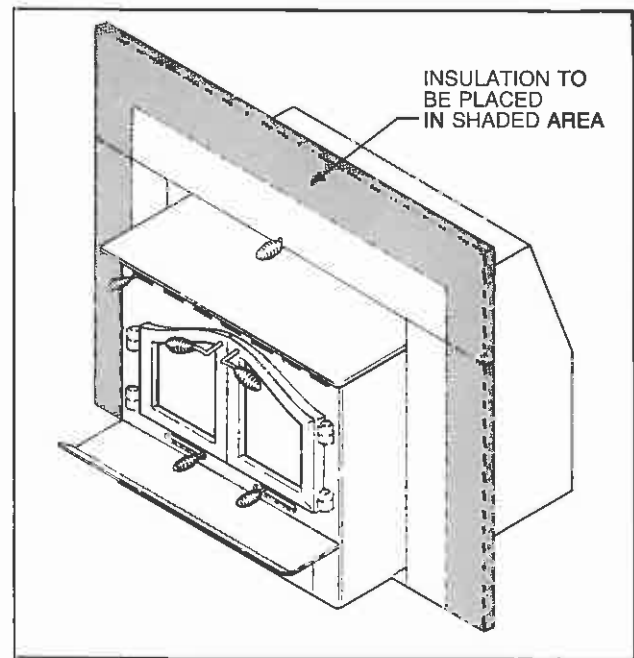

Fig. 5. Insulation in position.
B. Remove surround panels and fiberglass insulation from carton and lay the 3 panels (top and 2 sides) face down on a carpet or other soft surface. Spread out insulation and cut to length so that the 3 cut pieces will fit behind the panels. The insulation pieces will be placed at the outer portion of the surround panel (See Fig. 5).